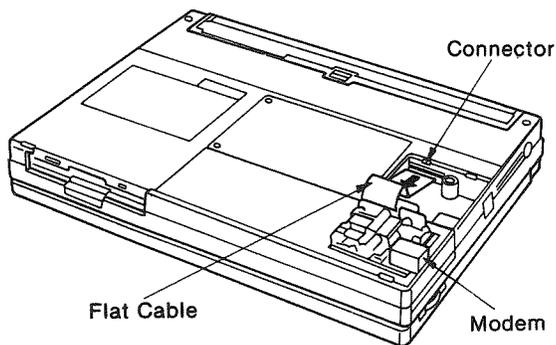

Figure 6
5. Carefully remove the flat cable from the connector. (Refer to Figure 6.)